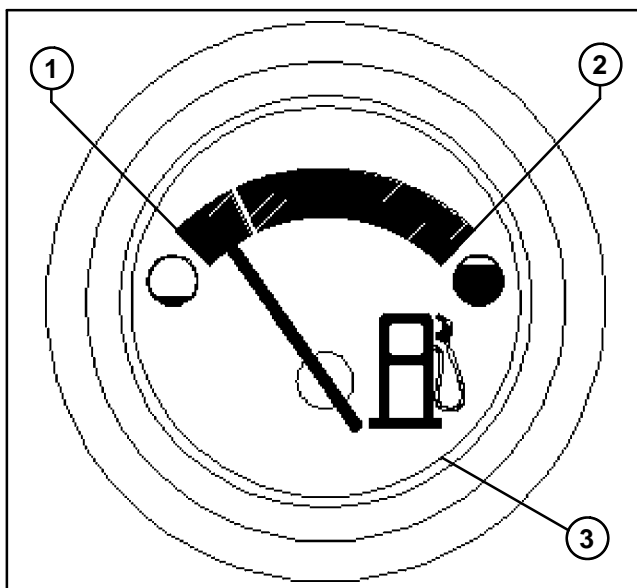

Figure 53
4. Take test point readings (Fig. 53):